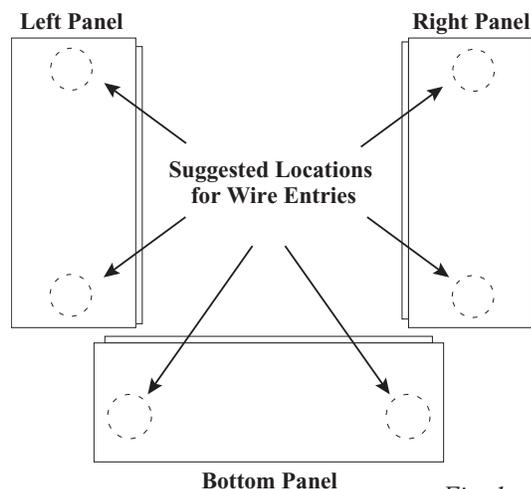

Fig. 1
1. Remove back plate inside the enclosure by removing four (4) mounting screws.
2. Mark and drill desired knockouts on the enclosure to facilitate wiring (*Fig. 1, pg. 1*).